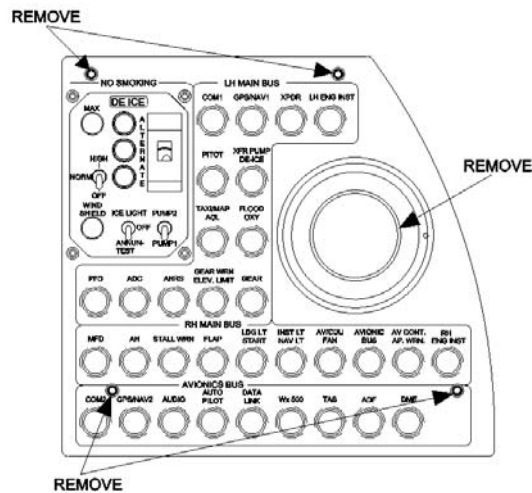

Figure 2
- 10.5 Remove the four mounting screws from the front of the circuit breaker EL panel and remove the air vent. Remove the EL panel. Refer to Figure 2.